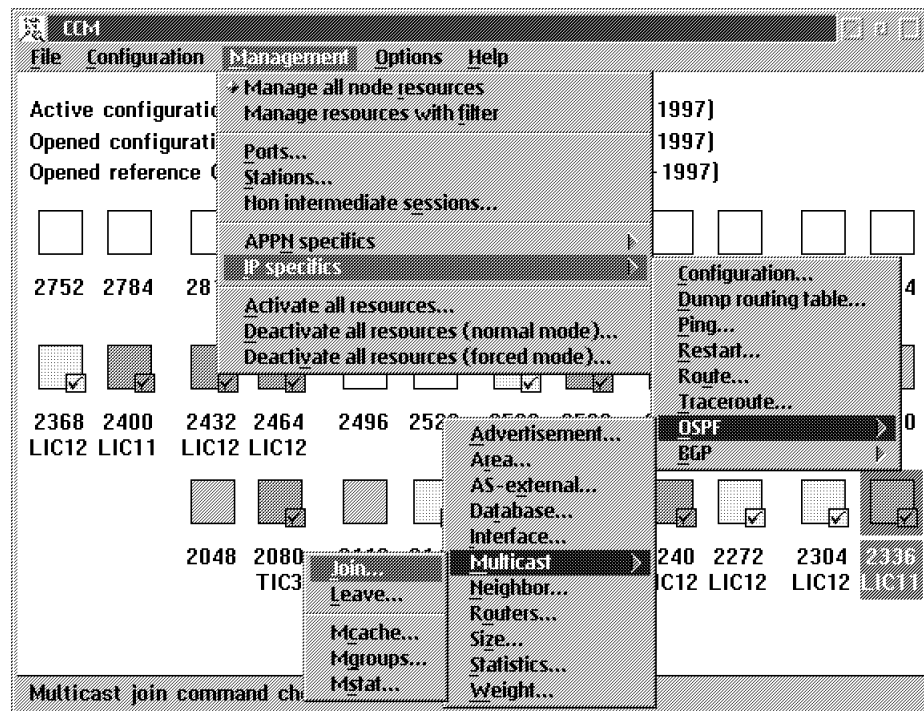

Figure 17-1. Example of an IP Command Window
2. Through the **IP specifics** cascaded menu from the main window **Management** menu (see Figure 17-1).